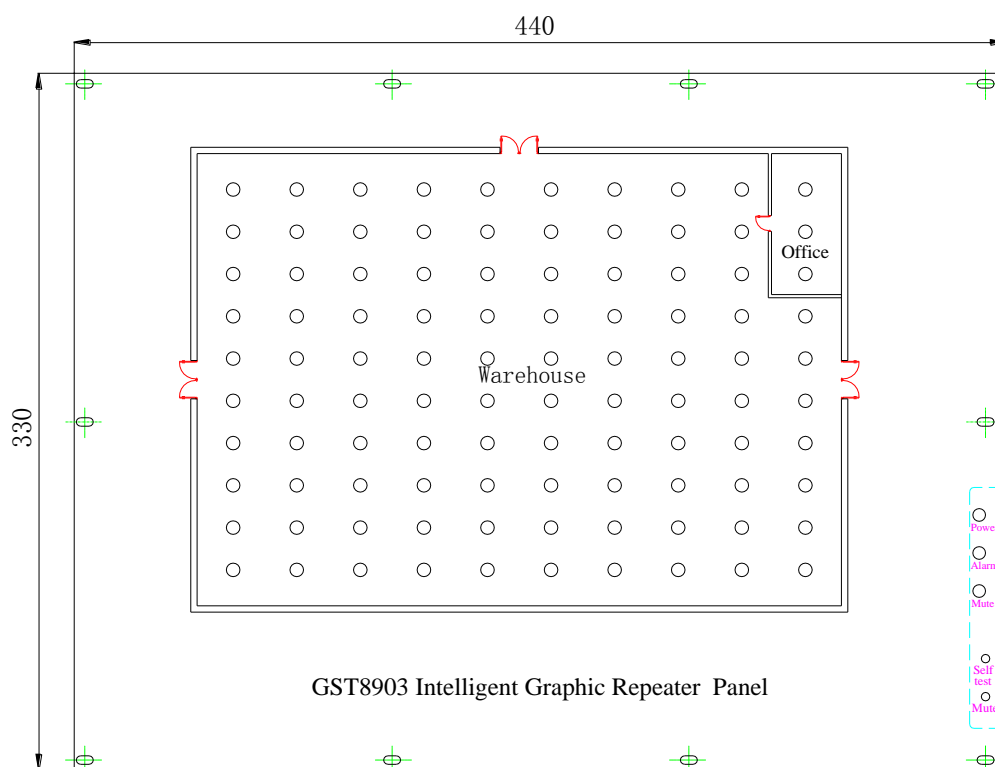

Fig. 2
(2) The front panel is shown in Fig. 2.